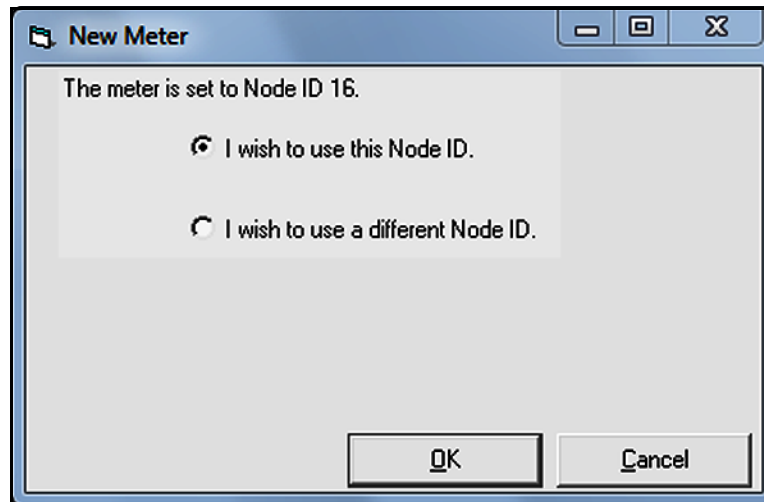

Figure 41: Node ID Confirmation
9. Select the "I wish to use this Node ID" radio button on a dialog box showing the Node ID (16 in this example) of the meter (see Figure 41 below) and then click [OK] button.